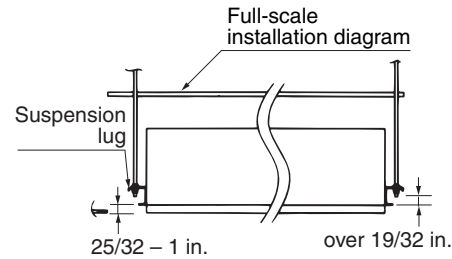

Fig. 3-56
- Make sure that the length of suspension bolts from the bottom of the unit is 19/32" or more. (Fig. 3-56)
- (1) Use the supplied M5 or 3/16" screws (4) to attach the full-scale installation diagram to the indoor unit suspension lugs, in order to obtain the ceiling opening dimensions for suspending the unit. (Fig. 3-56)
- The length of the suspension bolts must be such that there is a space of at least 19/32" below the bottom of the suspension lugs, as shown in Fig. 3-56. If the length of the suspension bolts is too long, the bolts may interfere with the ceiling panel and louver motor, preventing their installation.